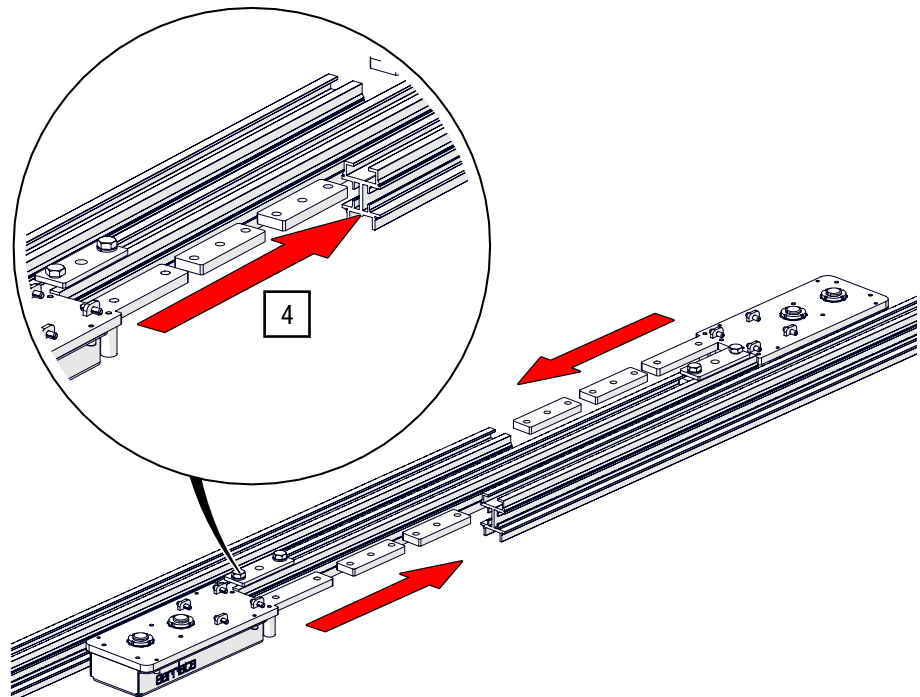

Fig. 61: Crossover unit – Insert T-slot nuts and slide the track onto the deflection unit
4. Insert two T-slot nuts per straight track section into the slot of the track section and slide the track onto the guide of the deflection unit (see Fig. 61).